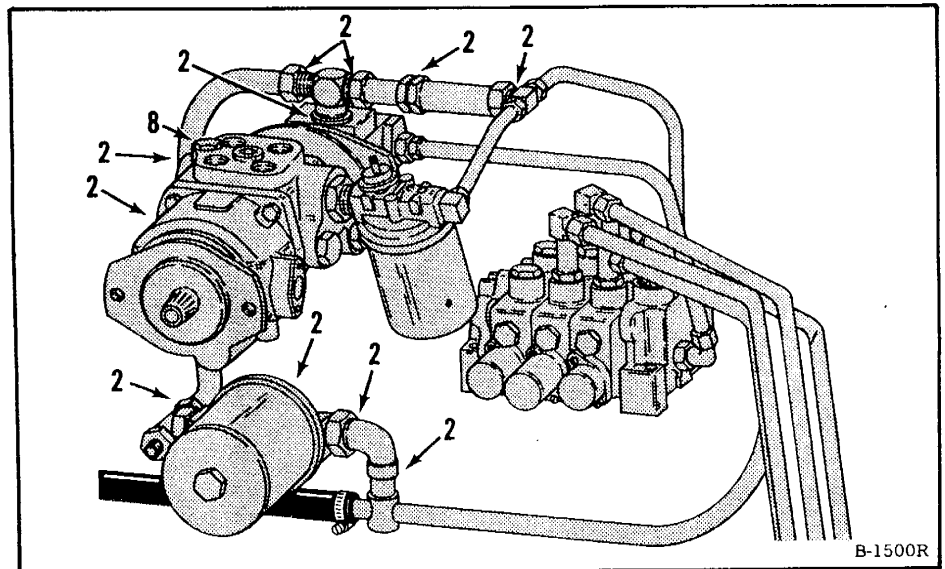

Fig. 2-8 Hydraulic System
(1) Remove the plug from the top of the valve plate (Fig. 2-8, Item 8).
(2) Put a fitting in the valve plate and connect a clear hose to the end of the fitting. Put the other end of the hose in the reservoir filler pipe.
(3) Start the engine and operate at 3/4 throttle. Operate the hydraulic controls and drive the machine for about 15 minutes, while looking at the clear hose. If air bubbles can be seen in the hose after 15 minutes, there is an air leak. Check the places shown (Item 2) for loose or damaged connections. Repair as necessary and check again. If no leaks can be found and hydraulic action is not smooth, make replacement of the 25 micron filter.